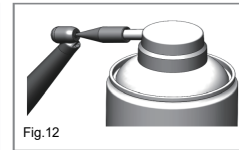

Fig.12
4. To lubricate handpiece chucks, put Shaft Spray Nozzle into nozzle of the lubrication oil can and inject lubrication oil into the chuck (Fig.12) for 1 second. It's recommended to lubricate chuck at least once a week and then proceed step 2.